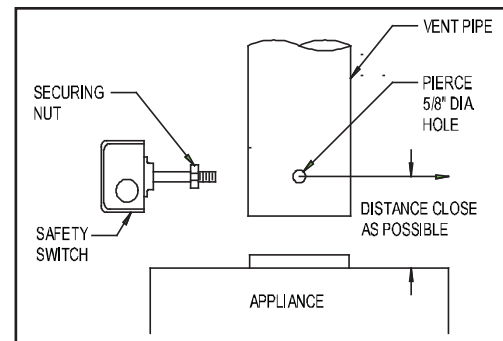

Figure 1
SEE THE APPLIANCE MANUFACTURER'S INSTRUCTIONS FOR THE SPECIFIC LOCATION. IF THE APPLIANCE MANUFACTURER DOES NOT SPECIFY A LOCATION, REFER TO FIGURE 1.
1. Drill or pierce a clean hole (about $\frac{5}{8}$ " diameter) in the vent pipe near the appliance outlet. Remove one of the securing nuts from the heat transfer tube. Tighten the other remaining securing nut onto the heat transfer tube as far as possible. (See Figure 1)